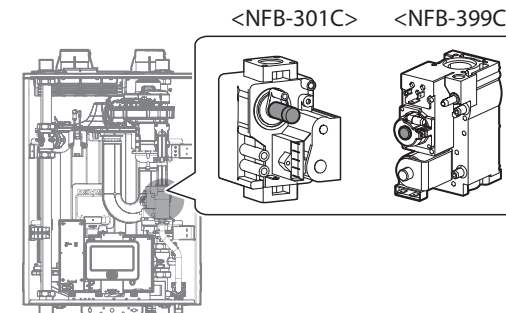

Figure 9. Set Screw Location
- c. Activate multiple zones and set the boiler to operate at 1Step MIN mode (refer to "11.4.7 Setting the Operation Modes" in the Installation & Operation Manual). Measure the offset value at low fire and compare it to the values in Table 3. If the offset value is out of range, the gas valve set screw will need to be adjusted. If adjustment is necessary, locate the set screw as shown in Figure 9. Using an Allen or Star Wrench, turn the set screw no more than 1/4 turn clockwise to raise or counterclockwise to lower the offset value.